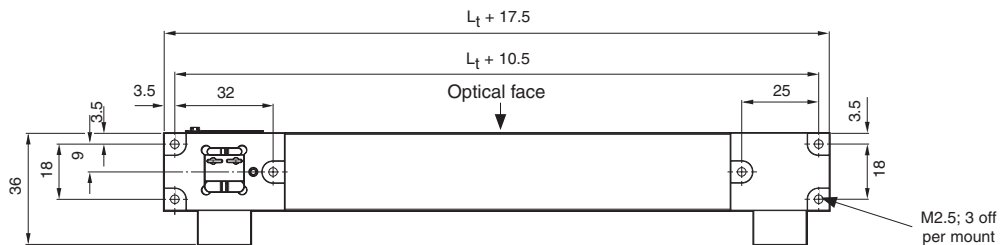

Figure 2: fixing holes for mirror of total length  $L_t$  ( $L_t \leq 350$ ); all dimensions in mm
- The motion stage must provide fixing holes to accept the mirror mounts. These should be machined according to Figure 2 below